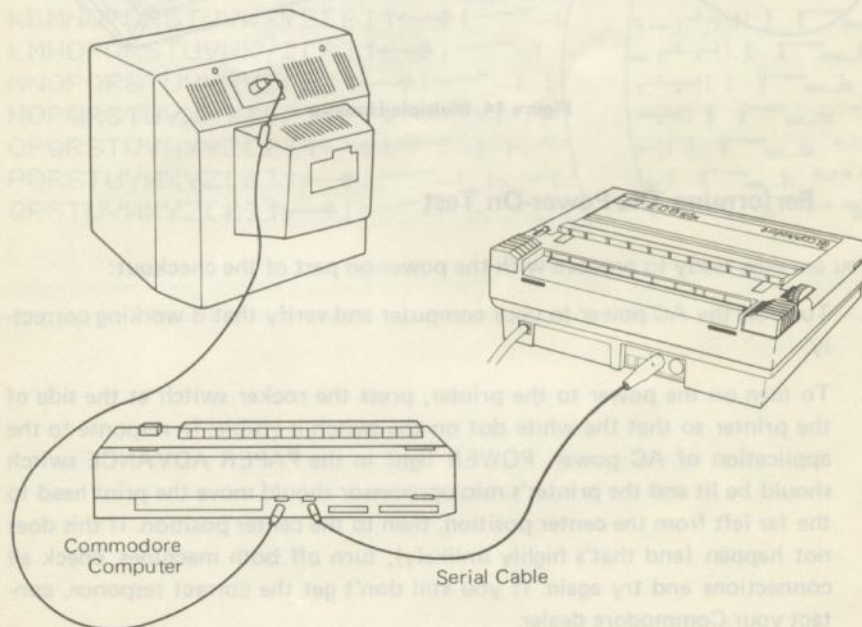

Figure 12. Printer to Computer Hookup
E. Connecting The Printer To Your Computer (See Figure 12, 13)
3. Connect the other end of the cable to your computer in the Serial Port Connector located in the back of your computer (See Figure 12) or your Disk Drive (See Figure 13). Make sure that you are "keying" the pins properly into the connector with 6 holes.